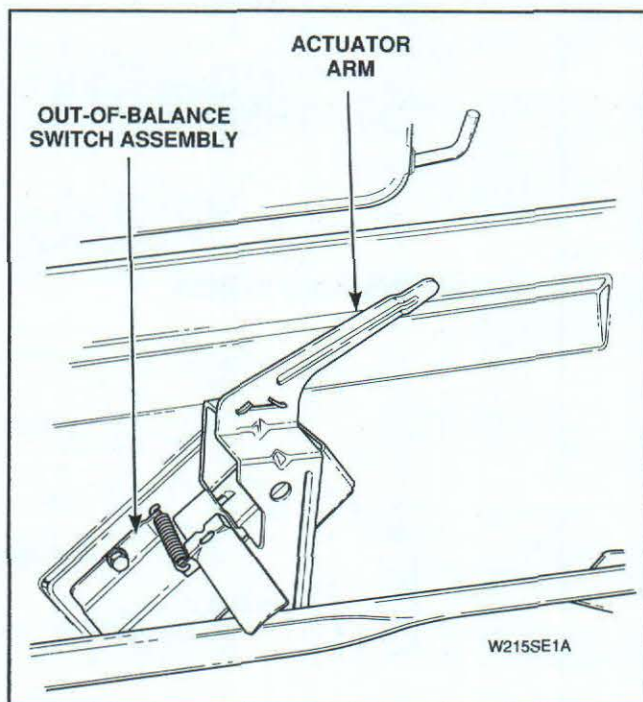

Figure 60
- d. Check for bent actuator arm or lever, *Figure 60*.